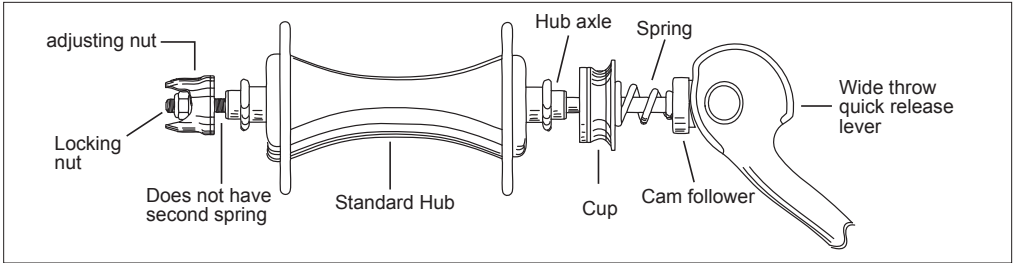

Fig. 29: The CLIX® Wheel Release System.
4. Now that the correct tension has been set with the CLIX quick release lever in closed position, tighten the locking nut with 8mm socket wrench until it is next to, but not tight against, the adjusting nut (Fig. 29, page 29).